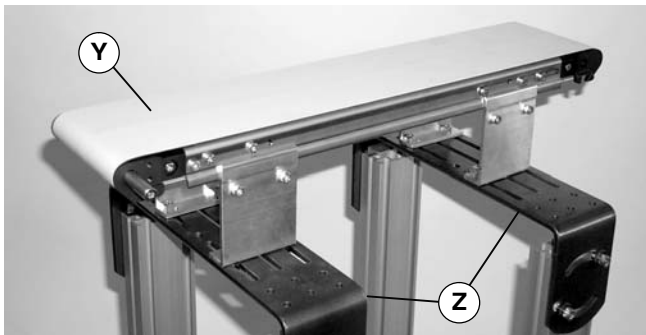

Figure 10
- Position conveyor (Y of Figure 10) on stands (Z).